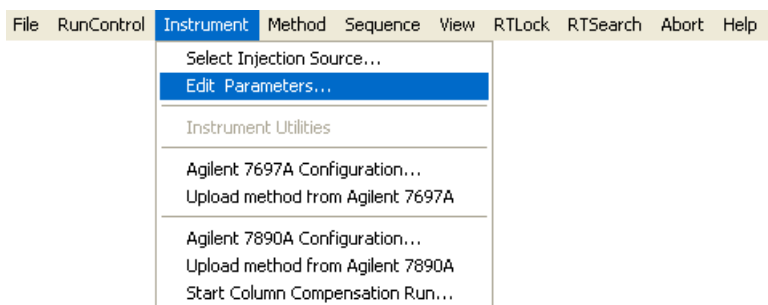

**Figure 12** Opening the Method Editor
- 1 Open the **Method Editor**. Select **Instrument > Edit Parameters...** (Figure 12).